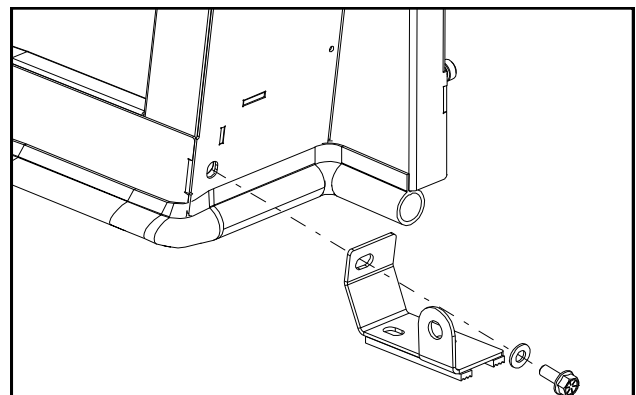

Fig. 6.3a (B2301 or B2601: fender bracket installation - left)
**6.3** (B2301 and B2601 only) Using hardware listed below, bolt the left fender bracket to the left side frame/rear leg, making sure to fully tighten hardware down. See fig. 6.3a. Repeat the process for the right fender bracket.